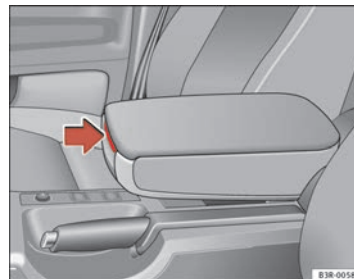

Fig. 115 Armrest between the driver's seat and front passenger's seat
- Press the release lever ⇒ fig. 115.